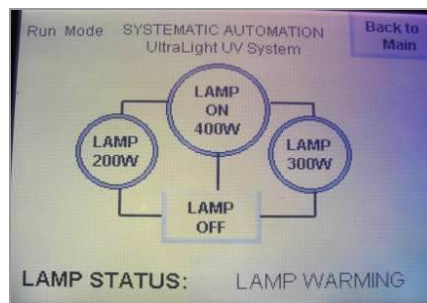

Figure 15. Select "LAMP ON 400W" on the Touch Screen Interface.
6. Select "LAMP ON 400W" on the Touch Screen Interface to start the UV Lamp (Figure 15). "LAMP WARMING" will appear at the bottom of the Touch Screen. Once the UV Lamp is ready, "LAMP ON 400W" will be displayed.